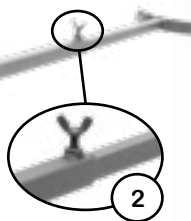

FIGURE 8
STEP 4: Locate the two (2) looped ratchet straps (S) (refer to Figure 1). Install the looped end(s) of the ratchet strap assembly to each side of the v-bar as shown in Figure 8. For installation and threading instructions refer to Figure 9.